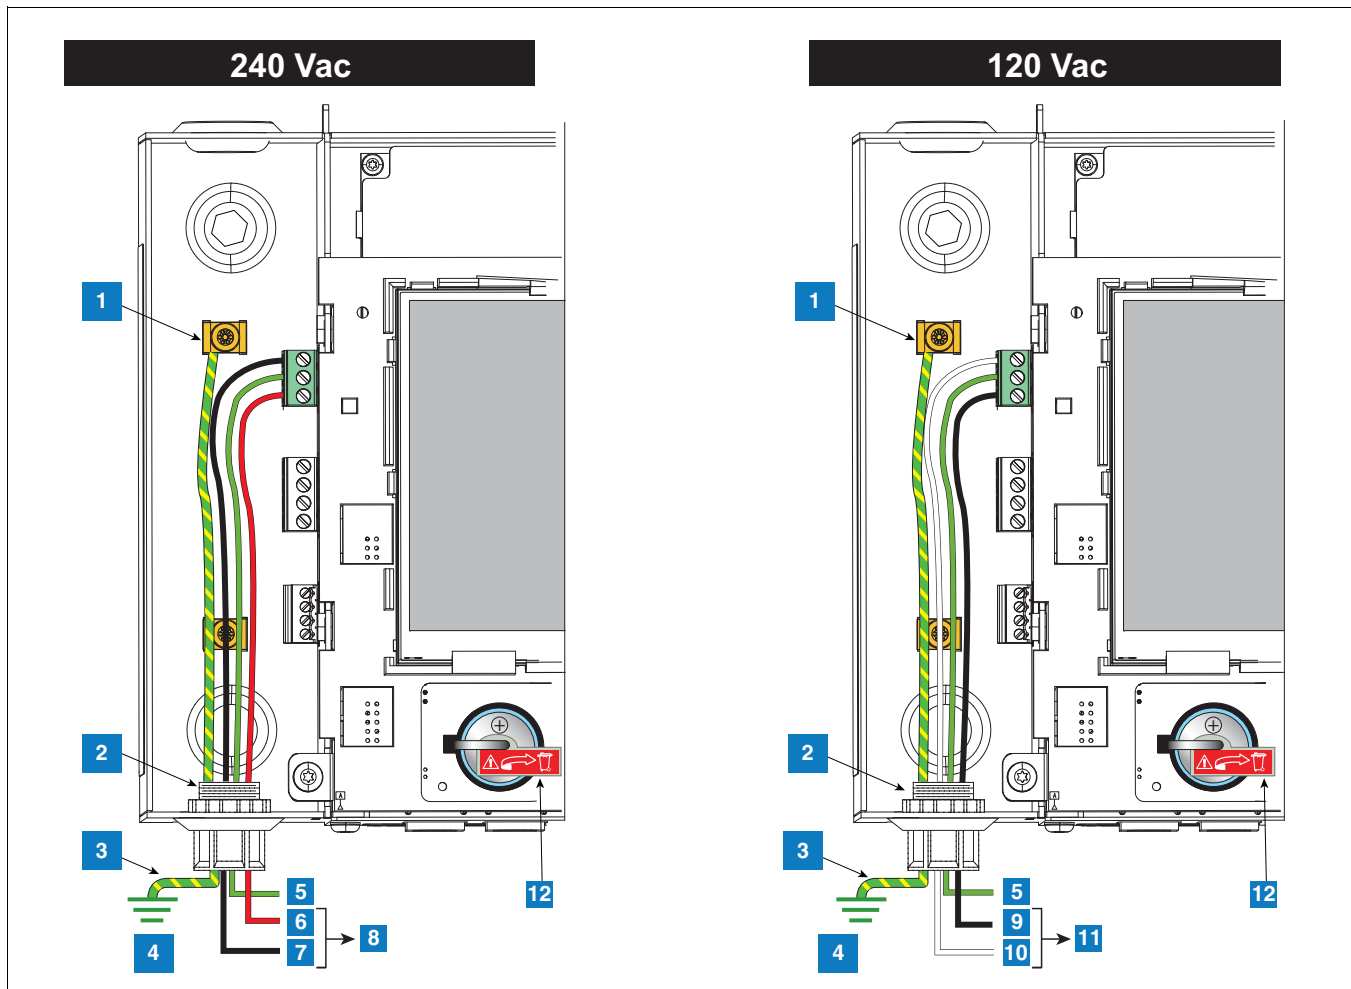

Figure 5. Wiring AC Power to the Console
3. Connect the input 120 or 240 Vac power wires as shown in Figure 5.
LEGEND FOR NUMBERED BOXES IN Figure 5